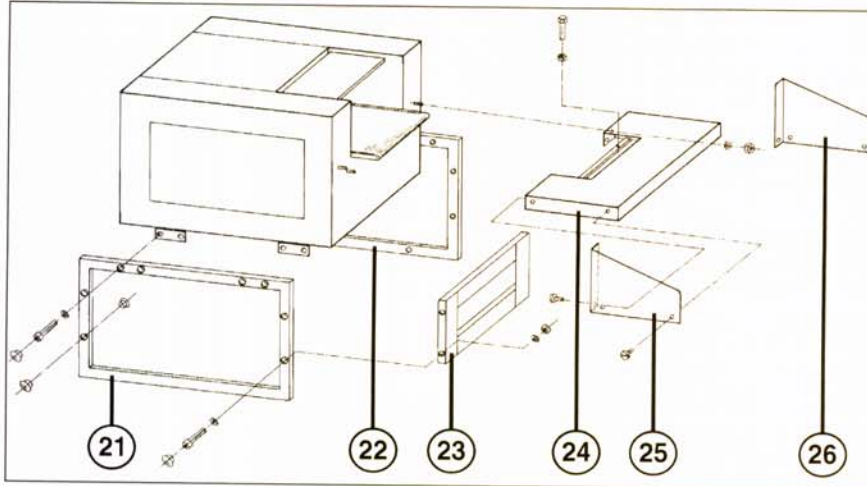

fig. 1
ASSEMBLY OF THE BASE (fig. 1 and 2):
ASSEMBLY OF THE TABLE (24) (Fig. 1):
4. Guide the power cord for the emergency stop bar (14) through the bush at the front of the left housing panel, and through the screwed joint on the bottom of the switch box. Connect the blue flexible cord to terminal 20 and the brown flexible cord to terminal 19.
ASSEMBLY OF THE GUARD PANELS (fig. 1):
- 21 = frame left (fig. 1 and 2)
- 22 = frame right (fig. 1)
- 23 = cross beam (fig. 1 and 2)
- 24 = table (fig. 1)
- 25 = guard panel left (fig. 1 and 2)
- 26 = guard panel right (fig. 1)